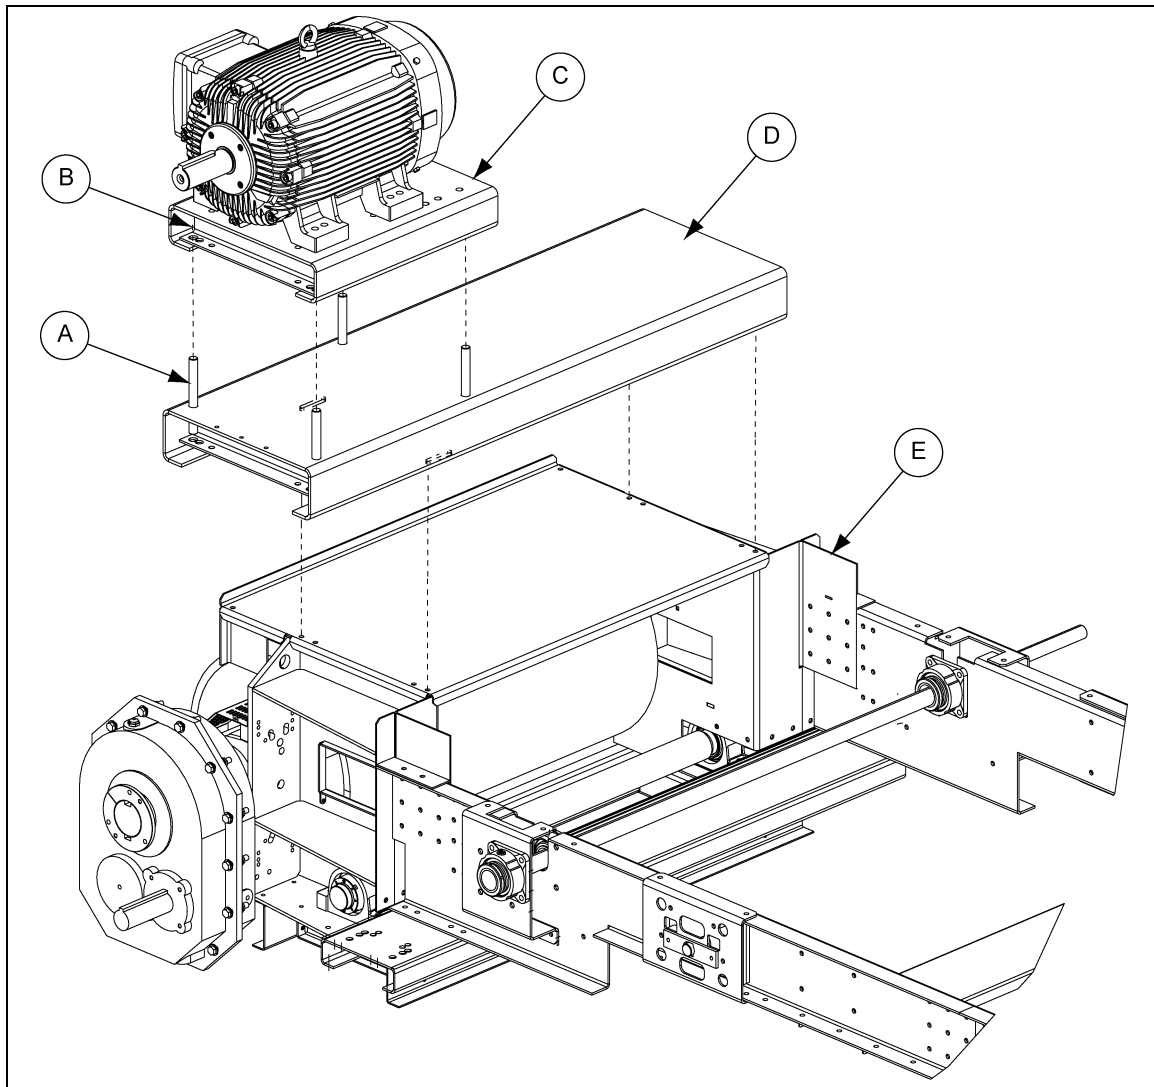

Figure 4M
1. Thread nuts onto jack screws. Place bolt through motor mount bracket and base plate. Thread another nut onto jack screws to secure. Repeat for three (3) remaining jack screws.
2. Thread another nut onto all four (4) jack screws. Place adjustment plate onto jack screws. Thread another nut onto each jack screw to secure adjustment plate. Use these nuts to adjust the motor height.
3. Attach the motor to the adjustment plate using bolts and lock nuts. (See Figure 4M.)